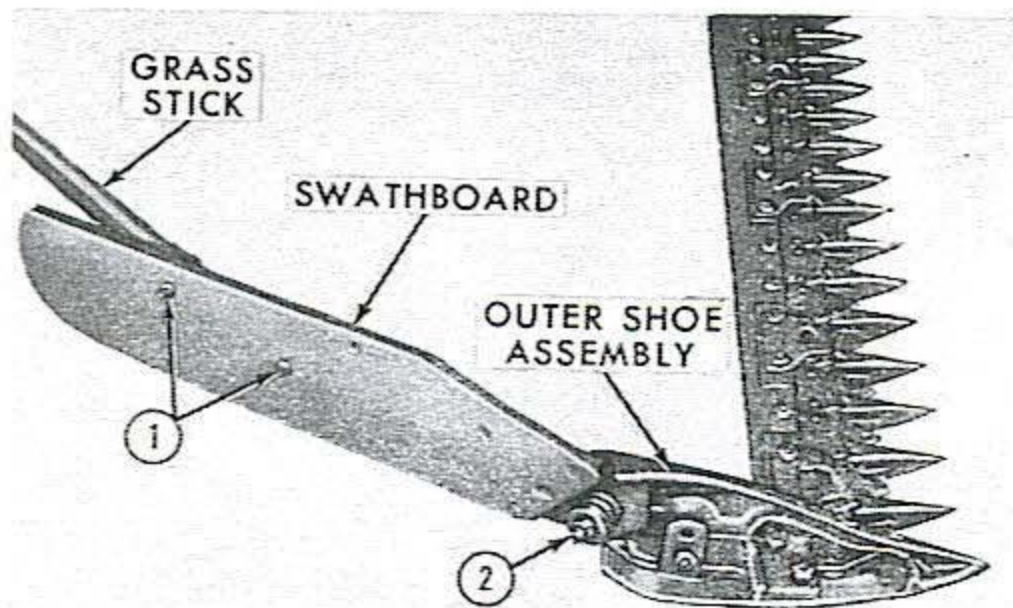

Figure 41
32. Attach the swathboard to the outer shoe assembly with the 1/2" - 13 x 2-3/4" cap screw, spring, flat washer, slotted nut, and lock washer, as shown in Figure 41.
33. Attach the grass stick and clamp to the swathboard with the two bolts (1), flat washers, and nuts, as shown.